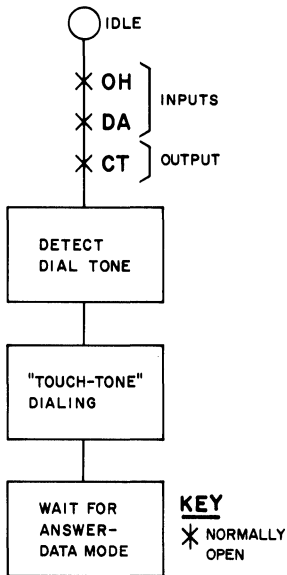

Fig. 5—Customer Automatic Calling Sequence Diagram—TOUCH-TONE Dialing
2.17 Automatic calling may also use TOUCH-TONE signaling for call origination (Fig. 5). As previously stated, closing the OH and DA leads to -V causes the coupler to go off-hook and provides a transmission path between the data terminal and the telephone line. When dial tone is present, multifrequency signals are generated to access the switched network. The customer may then wait for answer tone or a verbal answer before transmitting data.